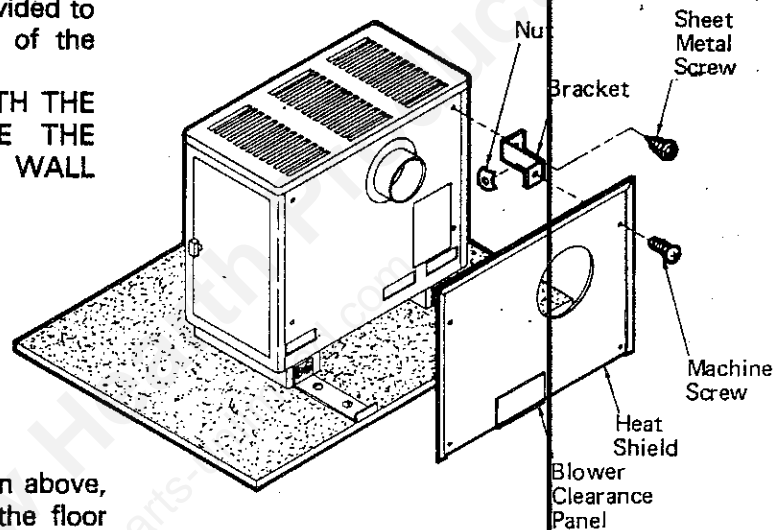

FIG. 13
6. After installing the chimney and cutting the 6-1/2" dia. hole in the floor for the inlet air, mount the wall shield to the heater using the instructions applying to Figure 13 on Page 12.
2. The shield is assembled using the four (4) brackets with nuts and machine screws that are provided in the parts bag.
3. The brackets are assembled to the shield as shown in Fig. 13.
4. The shield is positioned as shown in Fig. 13. The 10½" dia. hole is to be positioned directly over the flue collar.
5. Use the four (4) sheet metal screws provided to attach the shield to the cabinet back of the heater.